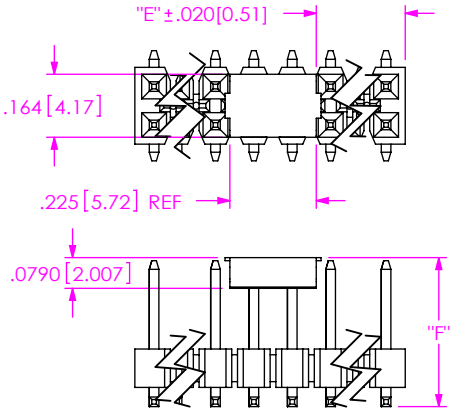

FIG 5
- (USE LMP-01, SEE FIG 5, SHT 2)